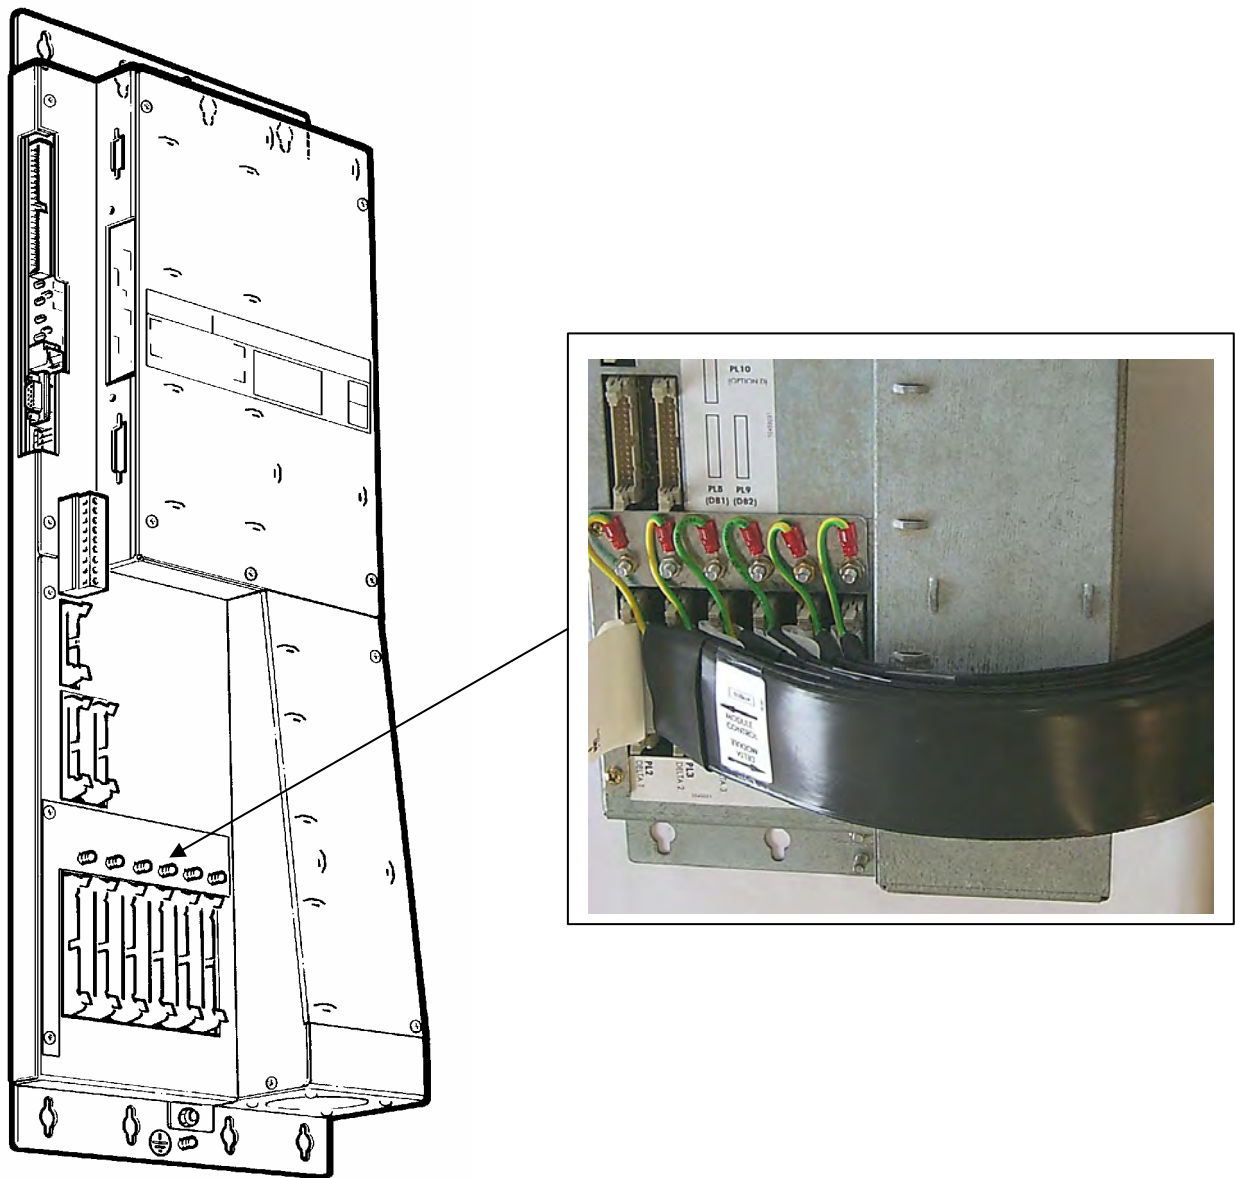

Figure 2 : Completed assembly of 6 screened ribbon cables into MV3000e Controller
- 1.3 Fit the screened ribbon cable(s) into the correct connector(s), PL2 to PL7 as applicable. Ensure that the end of the ribbon cable that is connected to the controller has the black jacket all the way up to the connector, as shown in Figure 2.
See Figure 2 for a fully fitted MV3000e Controller.